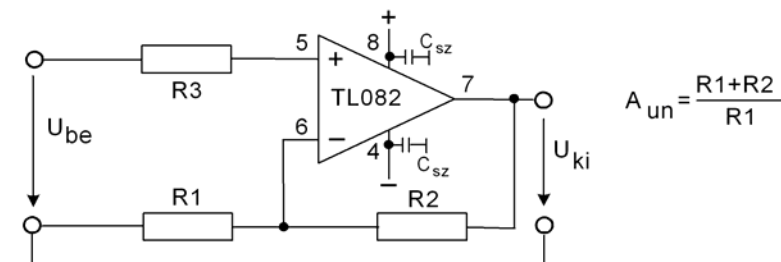

Figure 1-1. Basic non-inverting amplifier circuit
- 1.1. Student A: using the breadboard and the parts obtained from the tutor, build the basic non-inverting amplifier circuit (See fig. 1-1.). The power supply should be ± 15 V.